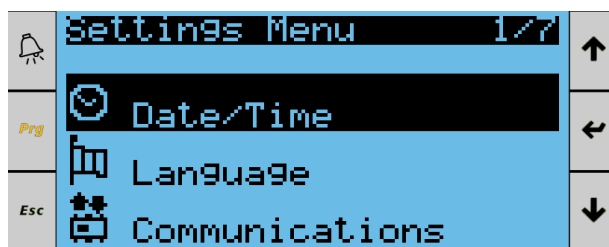

Figure 76. Settings Menu, Page 1
17. Within the Settings Menu, navigate to Date/Time shown in **Figure 76** below.